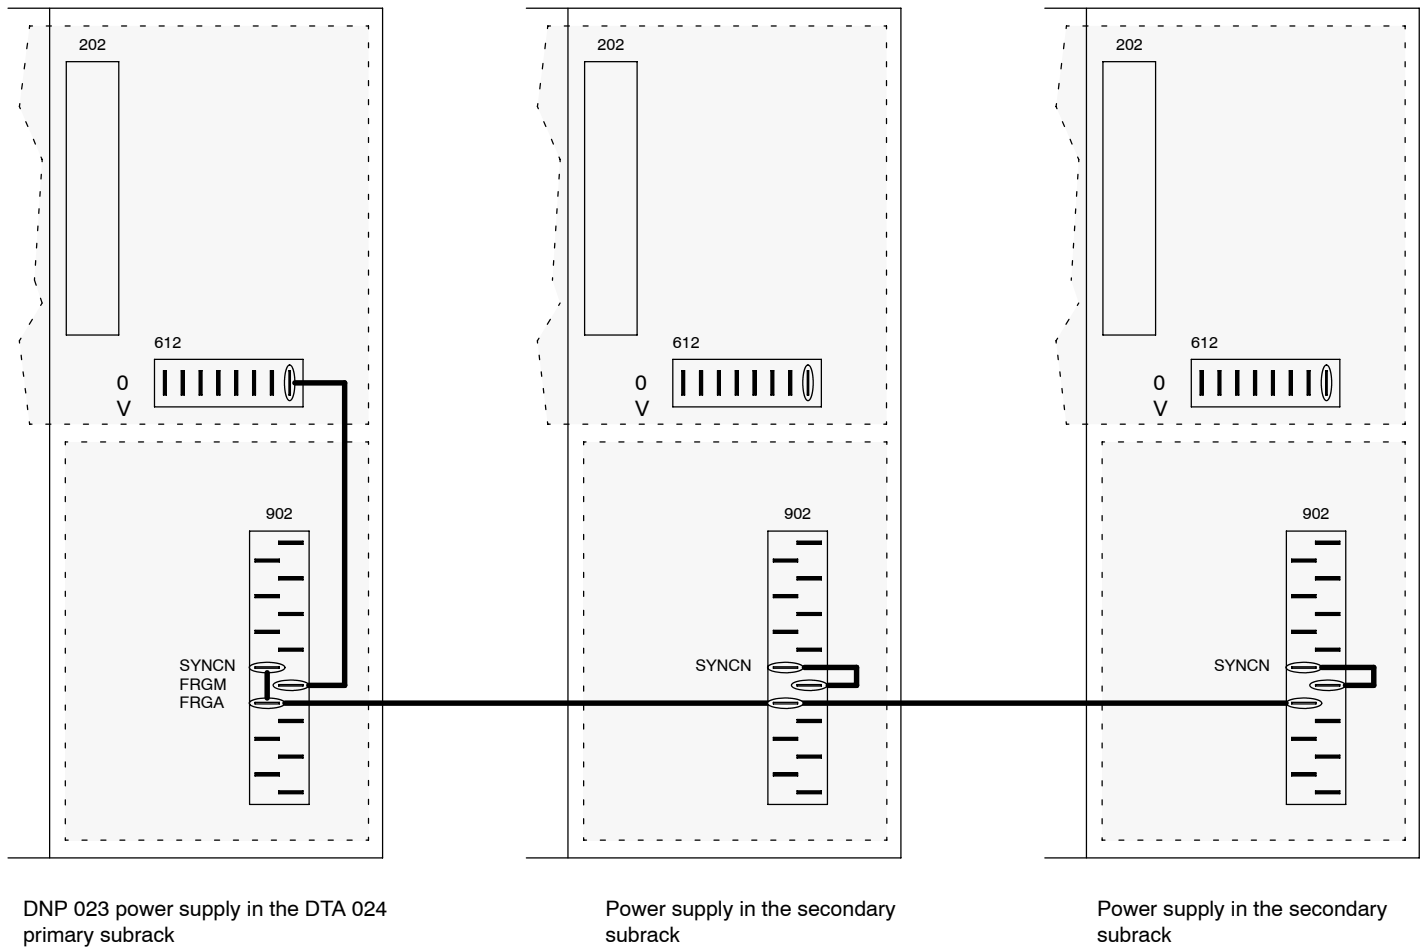

Figure 39 Example for Synchronizing 3 Power Supplies
- ❑ If an error occurs on the power supply of the controller, the peripheral power supplies are also switched off. If a peripheral power supply fails, this is registered via a time error of the I/O modules assigned to it (marker 21/31). The other intact power supplies are not switched off in this case (see Figure 39).
The SYNCN signal required for the synchronization and the relay contact are led to the subracks. The wiring measures to be carried out are described accordingly in the module descriptions of the relevant subracks. Figure 39 shows case 2 as an example.